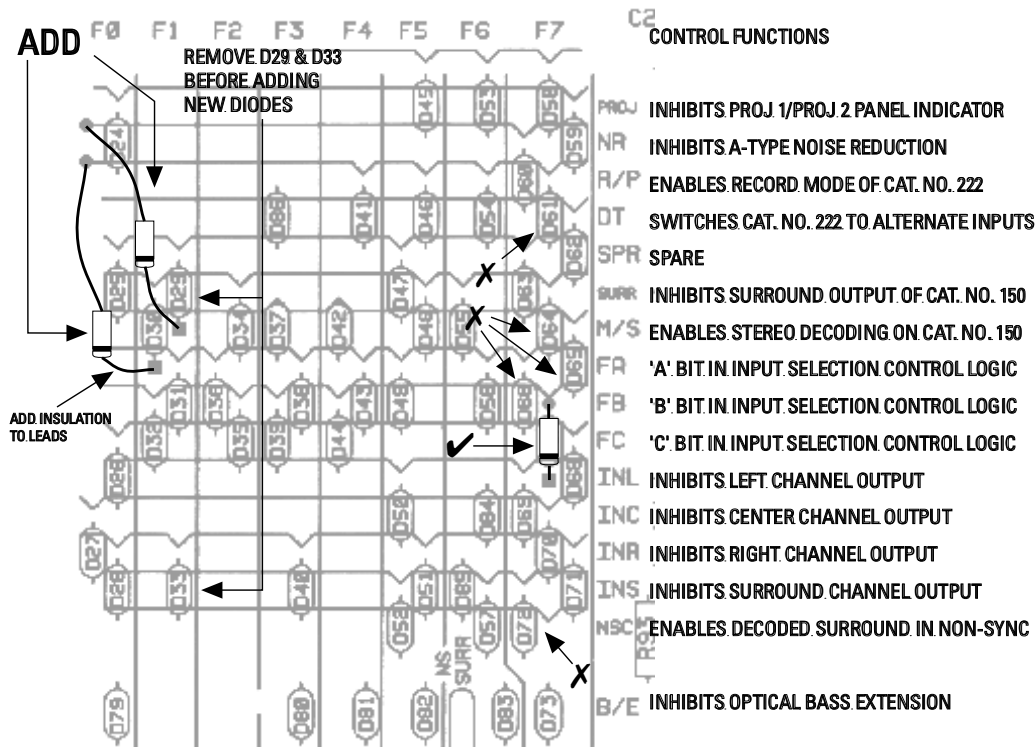

Figure 2.7 Cat. No.243 Diode Modifications
- b. Add two diodes as shown in **Figure 2.7**. The holes for the anode end of the new diodes may be filled with solder. Use a solder removing tool to clear these holes before installing the new diodes. Make sure the polarity is as shown below on the added diodes.
- c. If an SRA5 is currently installed using the AUX format, remove diodes D61, D64, D65, D66, and D72 shown in Figure 2.7 with an **X**. Add diode D67 shown with a **✓**.